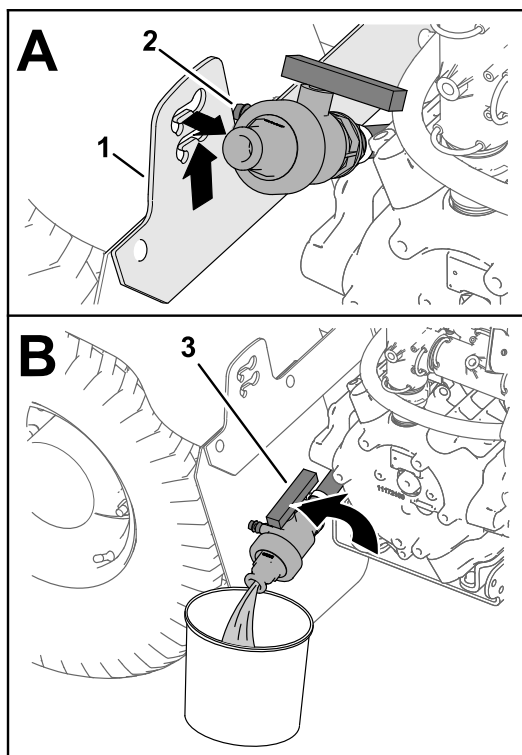

Figure 37
3. Lift the valve until the mount studs of the valve clear the slots in the drain-valve bracket, and move the valve rearward (Figure 37).
4. Align the end of the valve with the drain container and rotate valve handle to the open position (Figure 37).
5. When the tank has drained completely, rotate the drain-valve handle to the closed position and assemble the valve onto the drain-valve bracket (Figure 37).